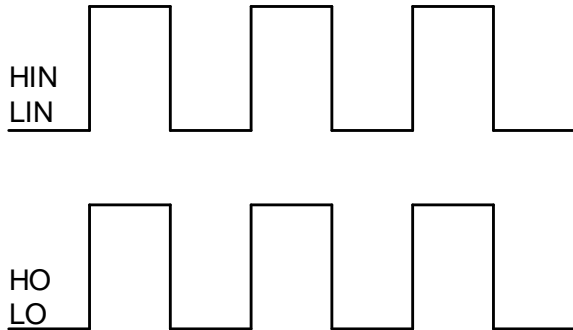
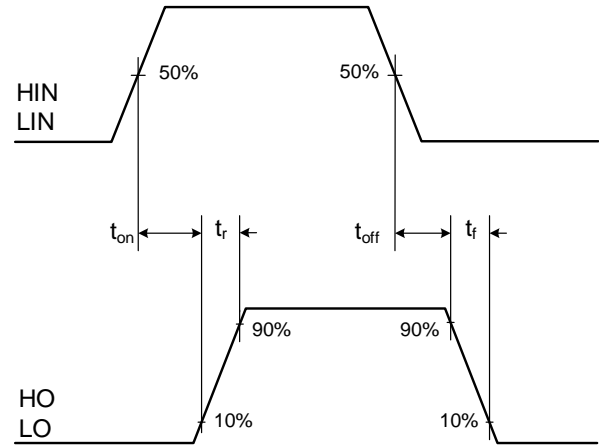

Figure 1. Input/Output Timing Diagram
Figure 2. Switching Time Waveform
**Note:** The input/output logic timing diagram is shown in Figure 1. For proper operation the device should be used within the recommended conditions. The VS offset rating is tested with all supplies biased at a 15 V differential.
The relationships between the input and output signals of the SLM2181 are illustrated Figure 1 and Figure 2. These figures show the definitions of several timing parameters (i.e.,  $t_{on}$ ,  $t_{off}$ ,  $t_r$ , and  $t_f$ ) associated with this device.